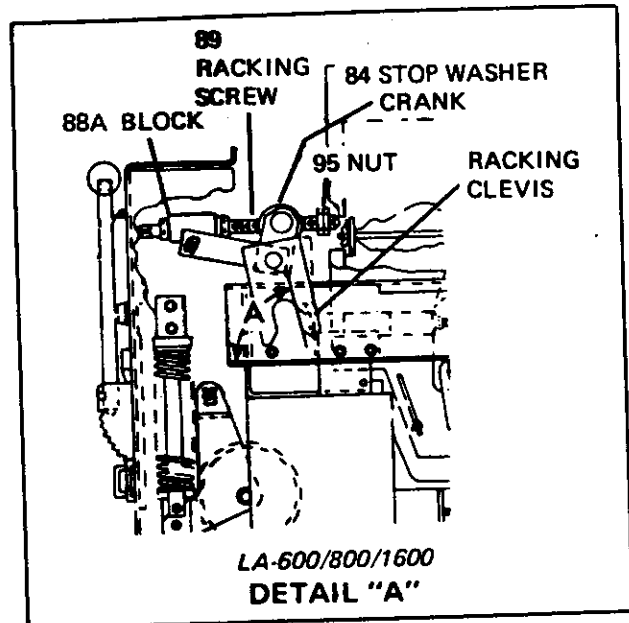

Figure 3. Detail of Typical Racking Mechanism and Drawout Interlock
Refer to Figures 3 and 3A, pages 8 and 9. With the circuit breaker resting on the cubicle rail, the following sequence should be used to rack the circuit breaker into the cubicle.
ected. Two stop nuts are provided on the racking screw to set the connected position. These are adjusted by setting the angle of the racking clevis, as shown in Detail A, Figure 3, and by tightening the nuts against the stop washer (84), the two nuts (95), should then be locked against each other.